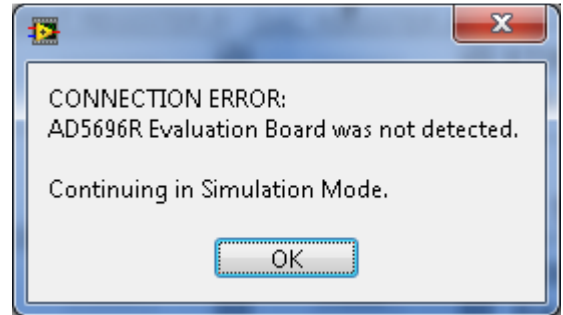

Figure 3. Error Message
3. If the SDP board is not connected to the evaluation boards a message box appears as shown in Figure 3. Check the connection between the SDP and EVAL-AD568xSDZ boards or use simulation mode.